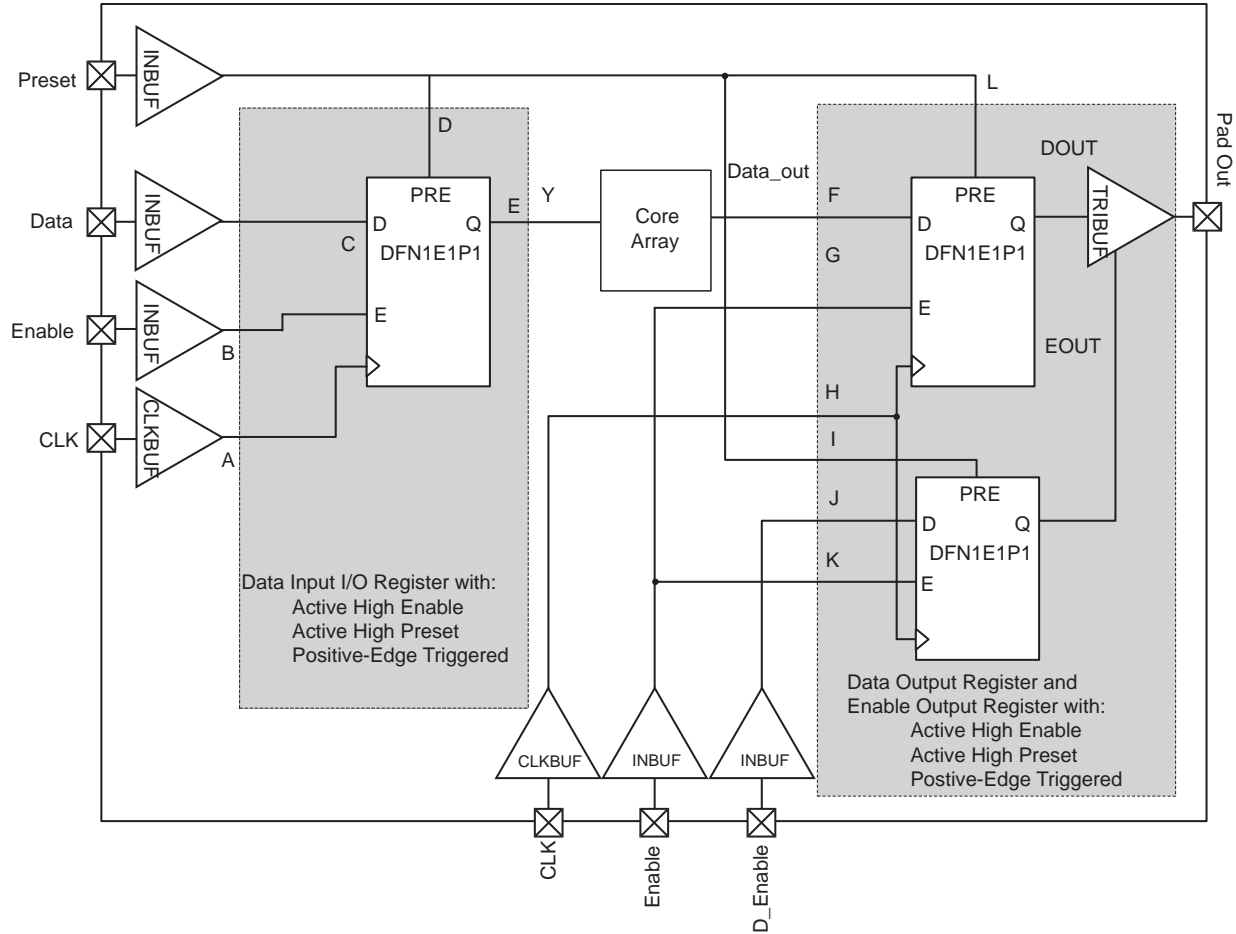

Figure 2-29 • Timing Model of Registered I/O Buffers with Synchronous Enable and Asynchronous Preset
* See Figure 2-29 on page 2-93 for more information.